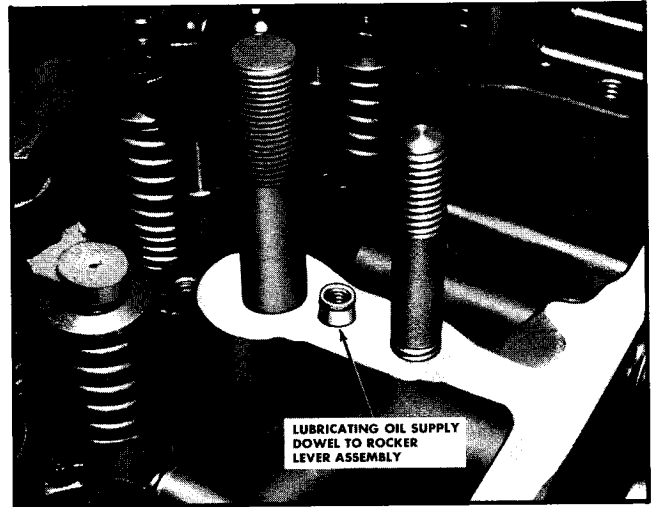

Fig. 12-38. Oil transfer dowel
7. Install oil transfer dowel. Fig. 12-38.